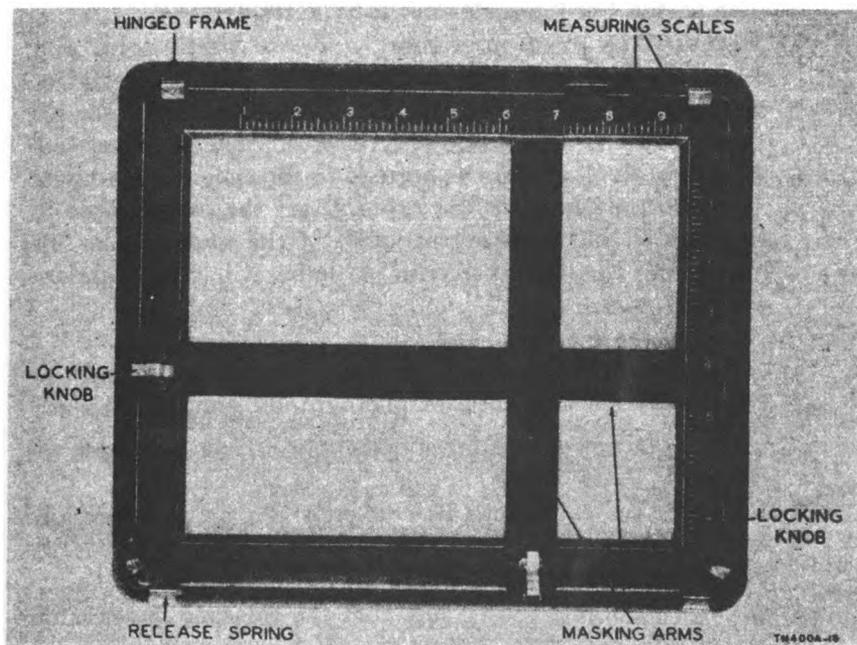

Figure 18. Board PH-317-A.
c. Board PH-317-A (fig. 18).
- (1) Raise the hinged frame by depressing the springs.
- (2) Place a sheet of photographic enlarging paper or blotter on the base of the board to aid in focusing.
- (3) Lower the hinged frame.
- (4) Release the masking arms by turning the locking knobs counterclockwise.
- (5) Set the masking arms so that the visible area of paper is equal to the desired size of the enlargement to be made.
- (6) Lock the masking arms in position by turning the locking knobs clockwise.